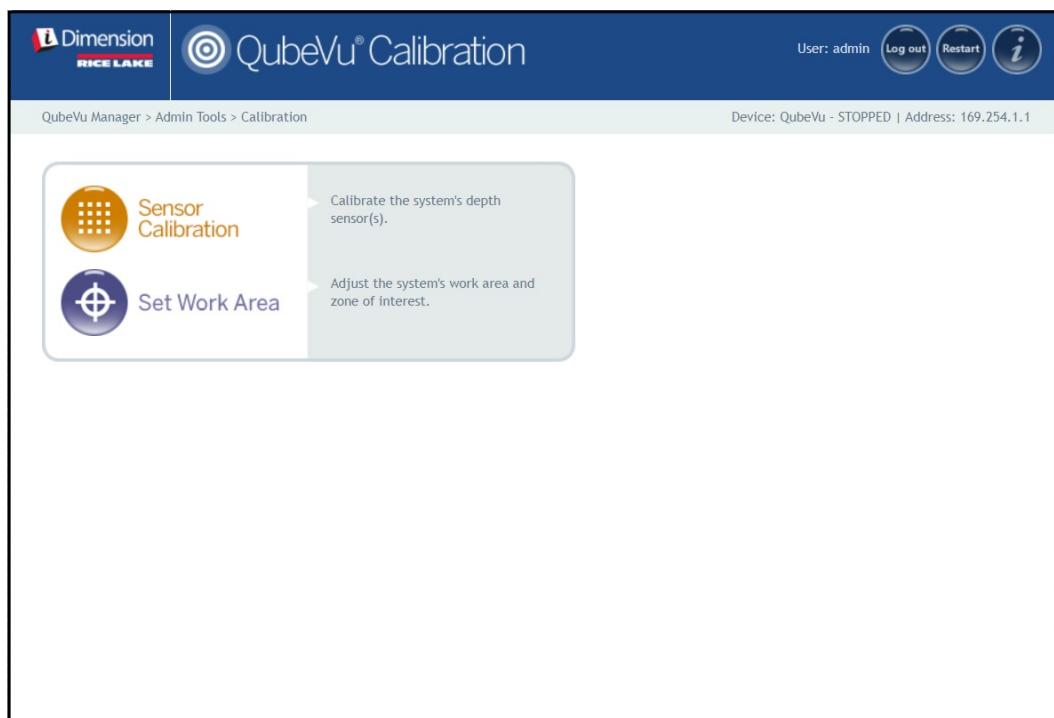

Figure 6-2. Calibration Menu
1. Select  **Sensor Calibration** from the **Calibration** menu (Figure 6-2 on page 44). The **Sensors Calibration** menu displays.
1. Select  **Sensor Calibration** from the **Calibration** menu (Figure 6-2 on page 44). The **Remote Sensors Calibration** menu displays.